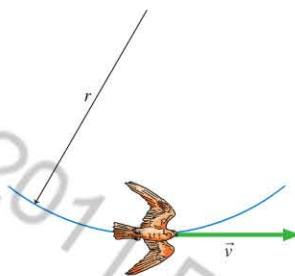

FIGURE I.3
Falcons are excellent fliers that can reach very high speeds by diving nearly straight down. To pull out of such a dive, a falcon extends its wings and flies through a circular arc that redirects its motion. The forces on the falcon that control its motion are its weight and an upward lift force—like an airplane—due to the air flowing over its wings. At the bottom of the arc, as in Figure I.3, a falcon can easily achieve an acceleration of 15 m/s^2 .
- At the bottom of the arc, as in Figure I.3, what is the direction of the net force on the falcon?